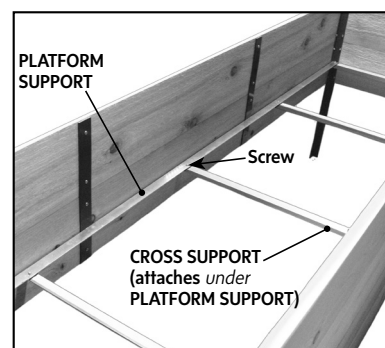

Figure 3
9. You will install the 3 CROSS SUPPORTS during Step 3 of Self-Watering System Assembly (below). To do this, place CROSS SUPPORTS under PLATFORM SUPPORTS but over CONNECTING TUBES, align screw holes, and secure with PHILLIPS SCREWS from the top (see Fig. 3).